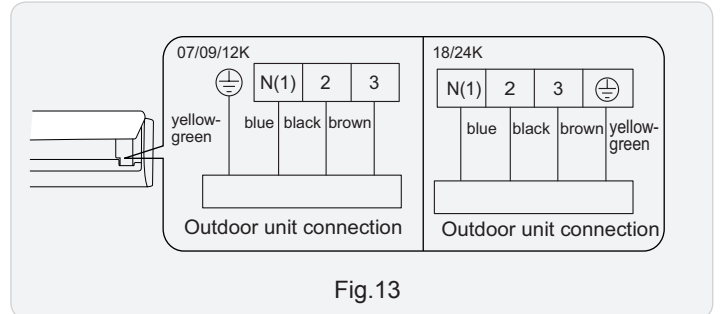

Fig.13
- (3) Remove the wire clip; connect the power connection wiresignal control wire (only for cooling and heating unit) to the wiring terminal according to the color; tighten the screw and then fix the power connection wire with wire clip.(As show in Fig.13)